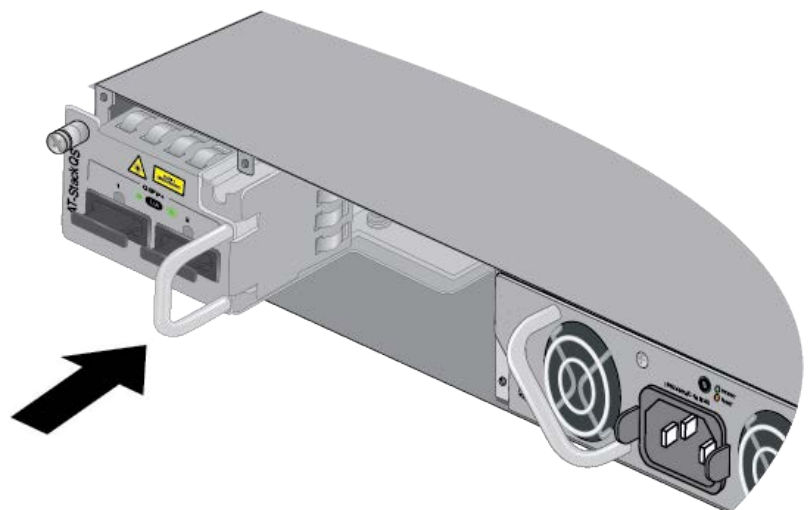

Figure 36. Seating the Card in the Switch
9. When you feel the card make contact with the connector inside the switch, gently press on the handle to seat it on the connector. Refer to Figure 36.